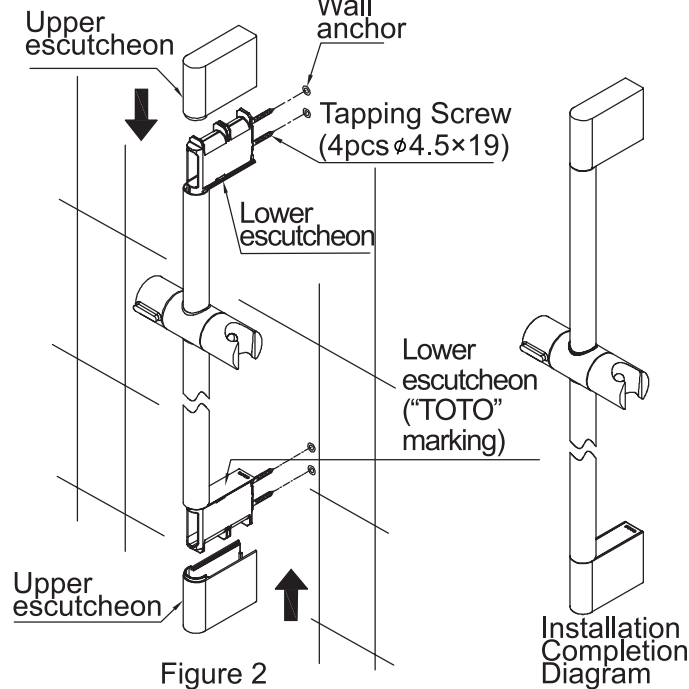

Figure 2
- 如图2，将滑动式淋浴支架组装起来，固定座与杆的缺口要充分卡紧，用自攻螺钉将上、下两端的固定座固定在墙上，用螺丝刀拧紧；（注：由于塑料材质，注意力度，以免损坏固定座）按图示方向将两个上装饰盖与固定座充分卡紧，完成产品安装。
- 注意：①安装前请确保墙面平整，务必仔细确认好两固定座间的距离。
②安装或拆卸时不要划伤电镀表面。
③滑动座不可装反。（手柄在左侧，旋钮紧锁时手柄扭朝向自己）
④安装前要确保下装饰盖与固定座充分卡紧，带"TOTO"字样的下装饰盖要安装在下面的固定座上。
2. As shown in Figure 2, assemble the slide bar, clamp well the notches of the bracket and slide bar, then fasten the fastened brackets at the upper and the lower ends with tapping screws, and screw in with a screwdriver. (**Note: As the fastened brackets are made of plastics, be sure to operate gently to prevent from damaging the brackets.**) As shown in the figure, clamp well the two upper escutcheons with the fastened brackets to finish the product installation.
- ① Before installation, please ensure that the finished wall surface is flat, and be sure to check the distance between the two fastened brackets.
- ② Do not scratch the chrome plating in the process of installation or disassembly.
- ③ Do not install the slide seat wrongly. (Handle on the left; rotate the handle toward user when fastening.)
- ④ Before installation, be sure to fully clamp the lower escutcheon with the fastened bracket. The lower escutcheon having "TOTO" should be installed onto the lower fastened bracket.